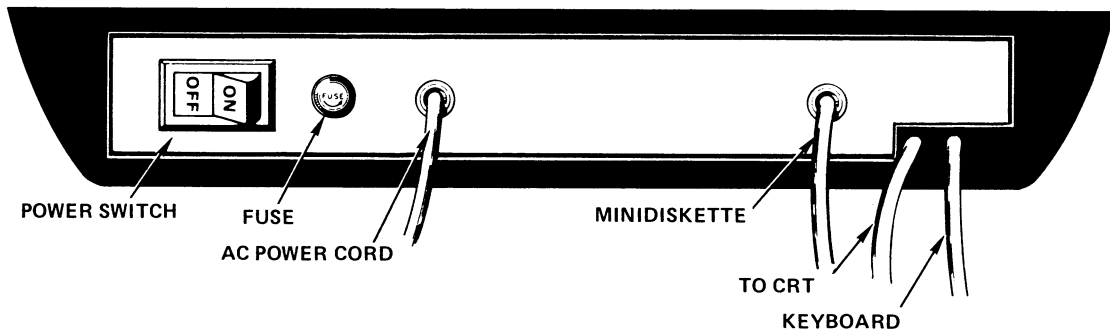

Figure 1-2. Rear View of the Model 2210
2. The CRT, keyboard and minidiskette(s) are properly plugged into the controller boards, and the lock clips are up. (Locked position, see Figure 1-2.)